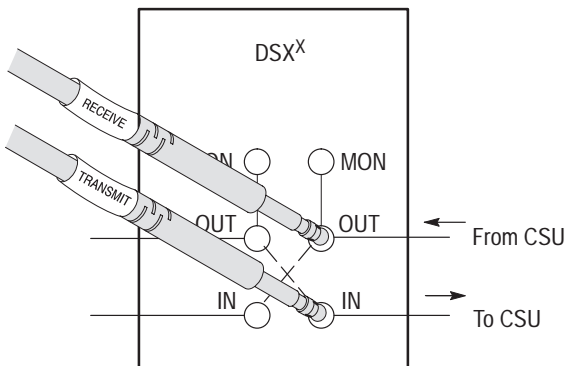

Figure 3–4: Typical connections for terminating a T1 circuit
4. Connect the “Receive” Bantam plug to the OUT side of the service access as shown in Figure 3–4.